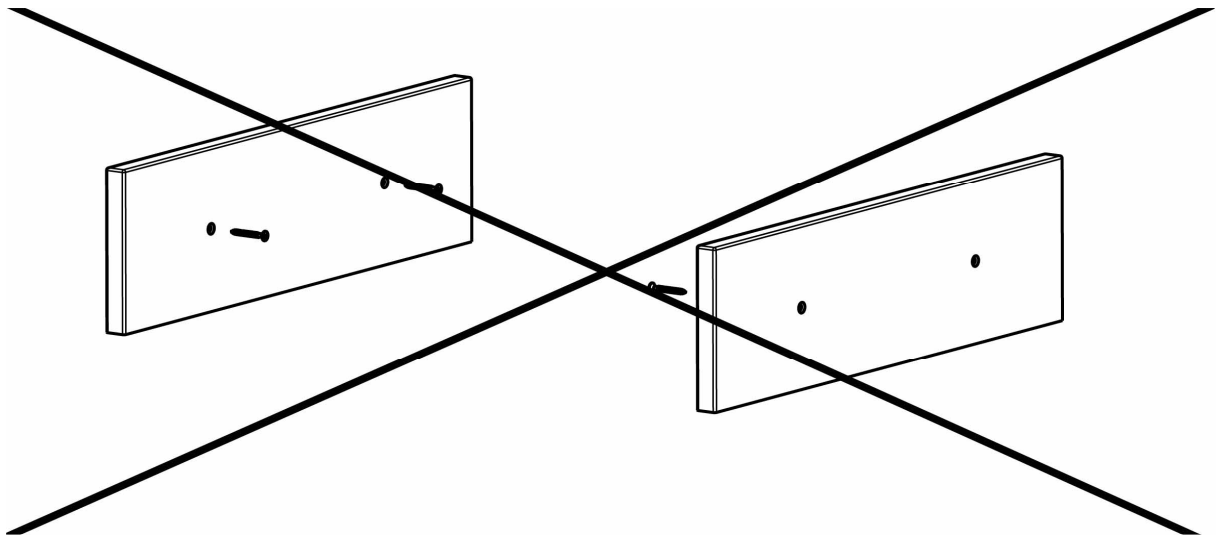

Fig. 1: Cabinet
2. Construction of the cabinet (Fig. 1)